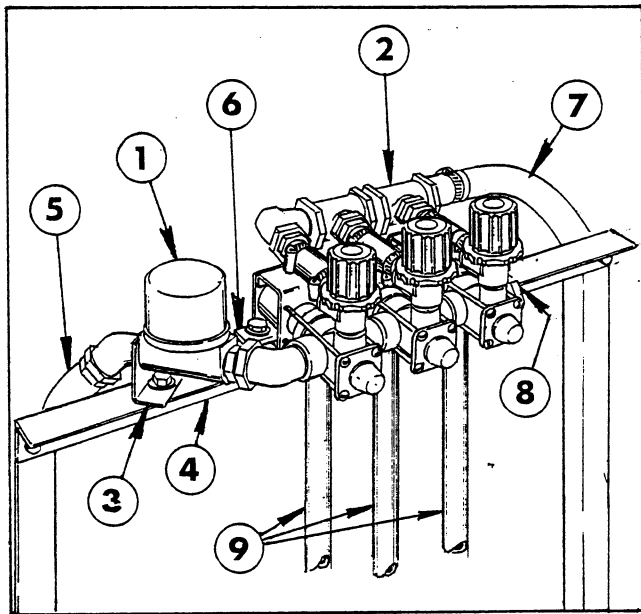

FIG. 8
2. Loosely attach the Control Valve Bracket to the Cross Support with a 5/16" x 3/4" cap screw, flat washer and nut. See FIG. 8.
3. Slide the Solenoid Mounting Strap into position and mount the complete Control Valve and Solenoid Assembly to the Cross Support as shown in FIG. 8. Use four 5/16" x 1" hex hd cap screws with four washers placed below the screw heads, two between the strap and the Cross Support and four below the Cross Support under the nuts.